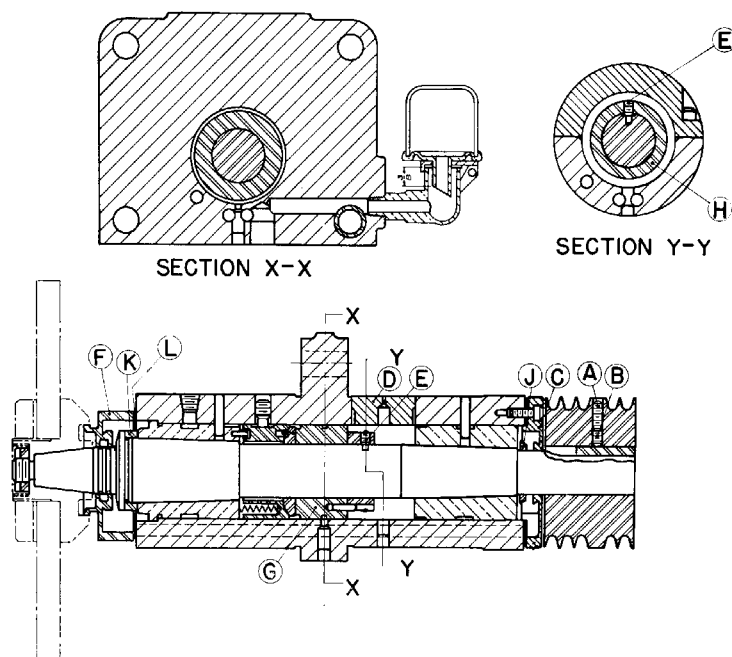

Fig. 32. Plain Bearing Spindle Unit.
Lubrication. Automatic lubrication is provided by a rotating pump unit integral with the spindle. A constant level oiler (Fig. 32) supplies oil to a reservoir in the spindle unit.
Correct Height of Oiler. To assure proper height of oil in the spindle reservoir, the vertical distance from the shorter side of the diagonally-cut spout to the top edge of the cup (with bottle swung down) must be $\frac{3}{8}$ " (see Fig. 32).
1. Take out the screws A and B (Fig. 32) that holds the driving pulley on the spindle. In removing the pulley use the wheel puller.
2. Remove the spindle rear box nut C (Fig. 32).
1. Put the front box thrust washer K on the spindle and insert the spindle in the boxes, slipping the thrust spring retainer (with springs in place), the central thrust washer and the thrust collar H onto the spindle in that order as shown in Fig. 32.